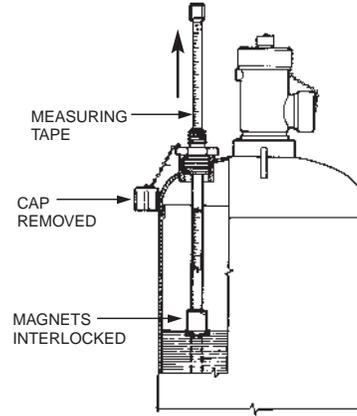

FIGURE 1
- b. Lift the measuring tape to the end (or approximately 3 in. above the expected level). Slowly lower the tape until a magnetic interlock is felt. See Figure 1.